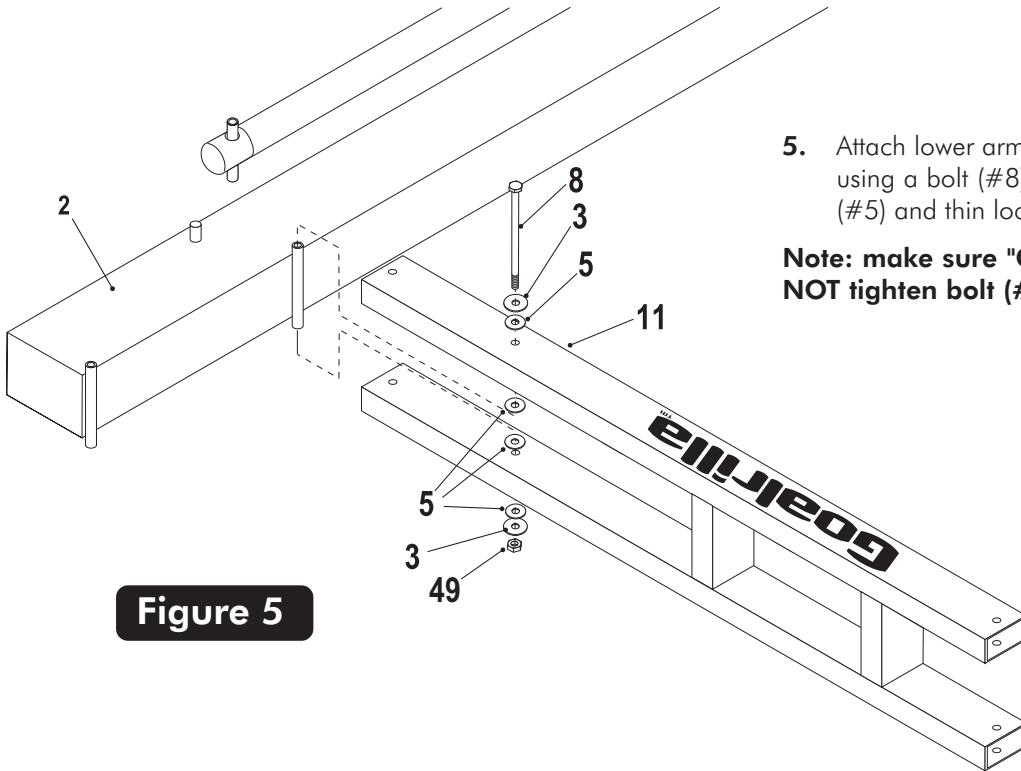

Figure 5
- Attach lower arm (#11) to Pole (#2), as shown in Figure 5, using a bolt (#8), two flatwashers (#3), four plastic washers (#5) and thin locknut (#49).